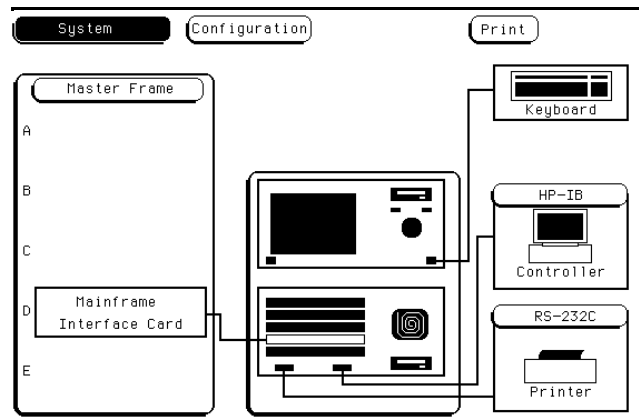

Figure 2-14. System Configuration Menu
- c. Turn on the power standby switch located on the front-panel of the HP 16500A mainframe. When the power-up tests are complete, the HP 16500A mainframe screen shows the Mainframe Interface Card in one of the card slots. See figure 2-14.